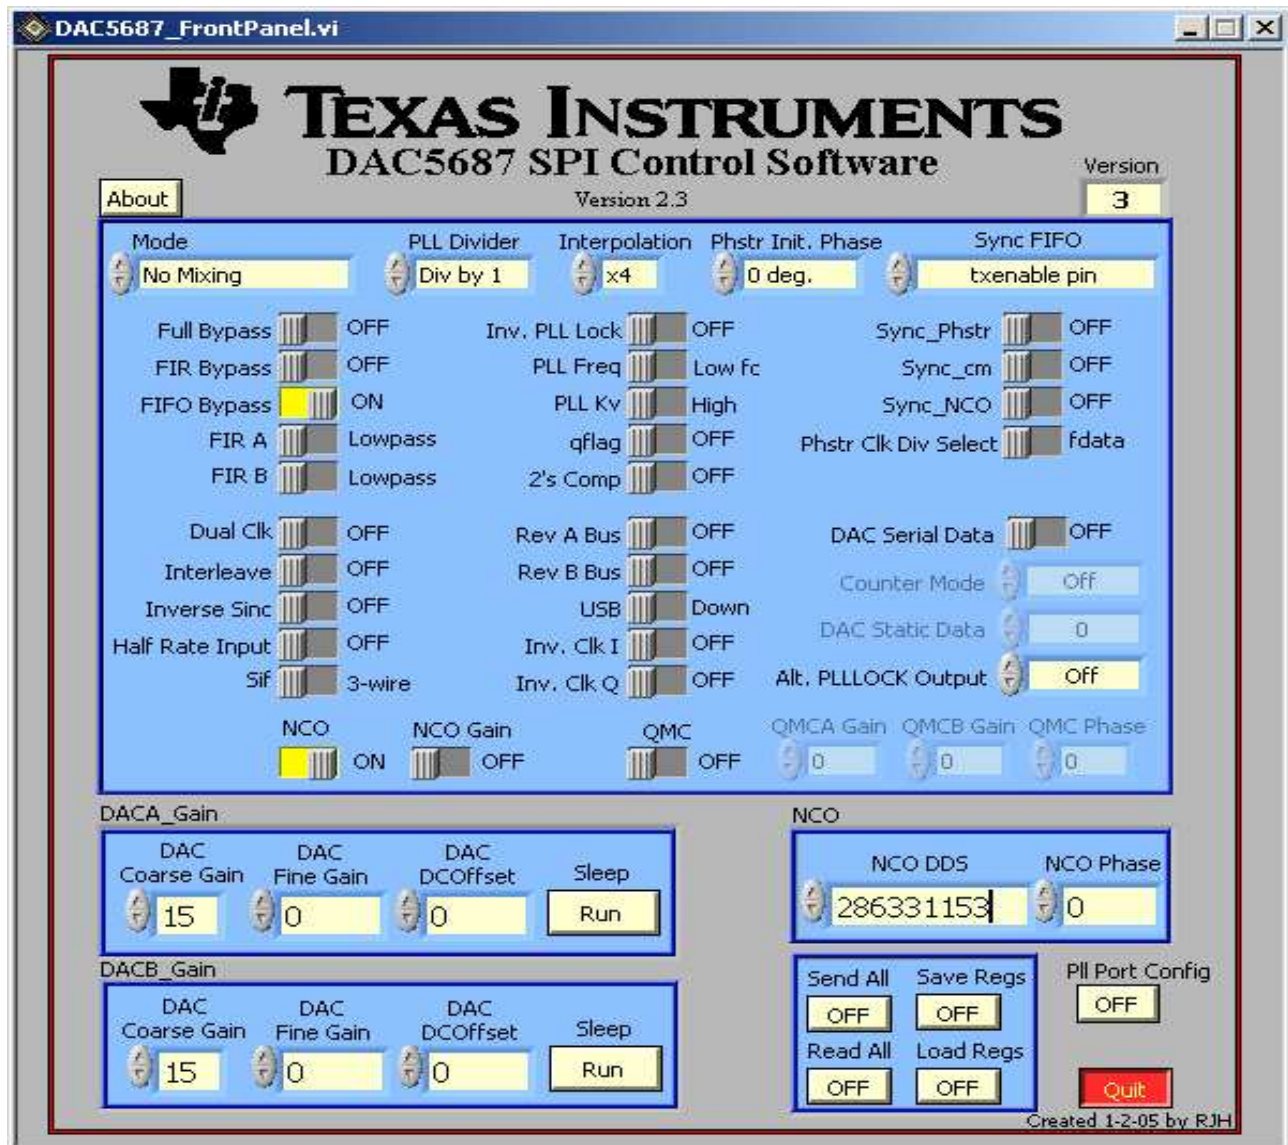

Figure 4. DAC5687 Setup for X4 Mode and NCO Tone at  $F_{DAC}/15$
7. Change the interpolation to X4, and the mode to *No Mixing*, the NCO DDC to 286331153 ( $F_{NCO}/15$ ) and reduce the CLK2 frequency to < 320 MSPS. The GUI should look as shown in Figure 4. The NCO is now running at the DAC update rate (= CLK2). For CLK2 = 300 MSPS, the result is an output tone at 20 MHz.